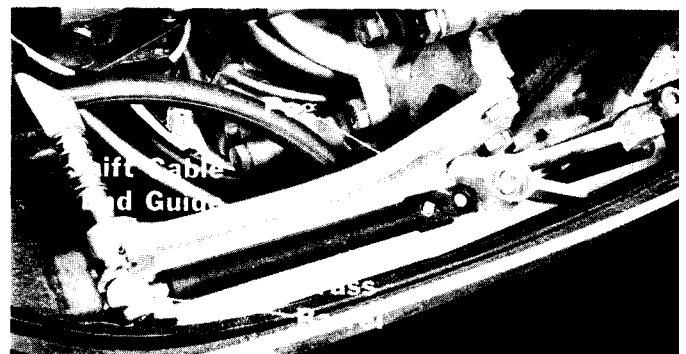

Figure 7. Positioning Brass Barrel and Cable End Guide
4. With motor in forward gear, place brass barrel (on shift cable) in recess in bottom cowl and cable end guide over peg without disturbing setting as shown in Figure 7. If necessary, readjust brass barrel for correct position and to compensate for backlash.